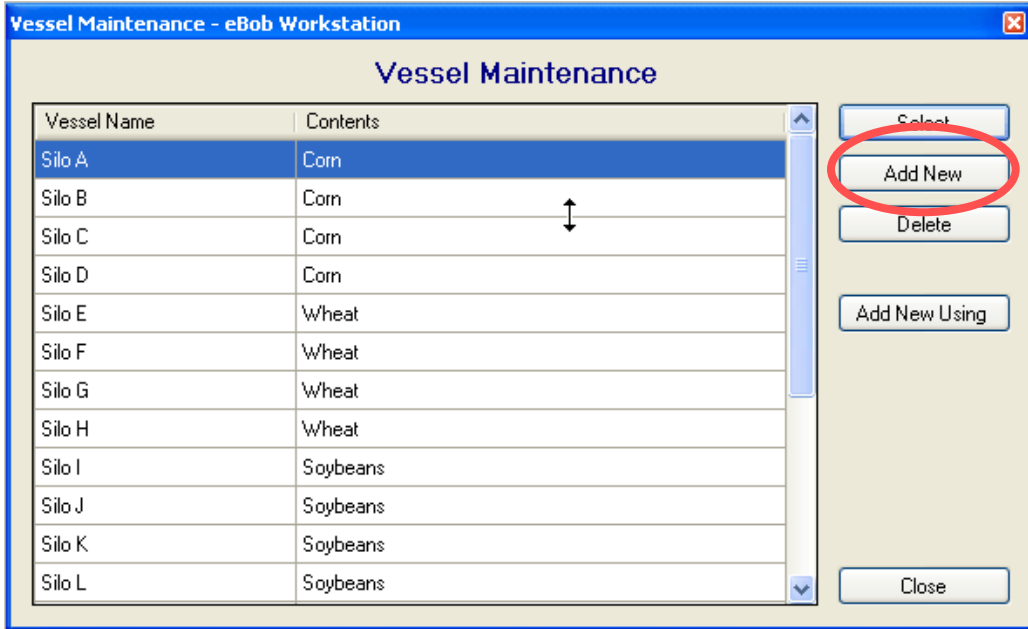
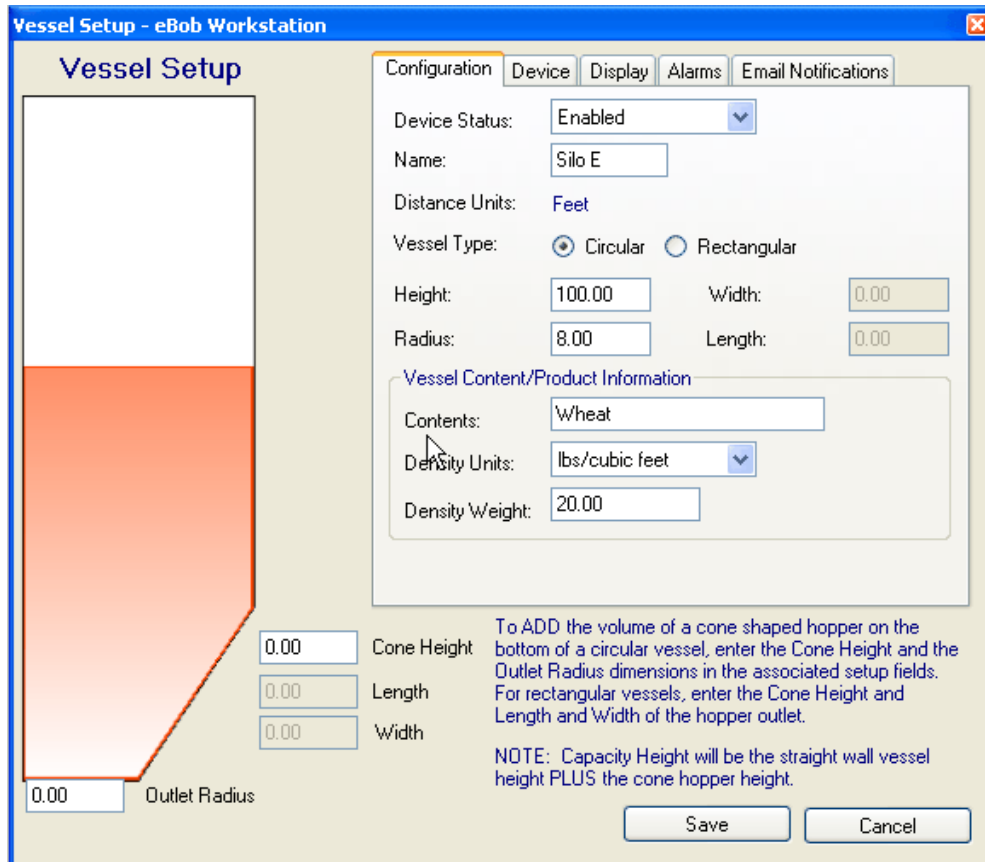

Figure 3
Figure 4
4. Create the vessels in your system by clicking Vessel | Vessel Maintenance | Add New button (Figure 3). In the Vessel Maintenance screens (Figure 4), enter information into the following fields, *at a minimum*: